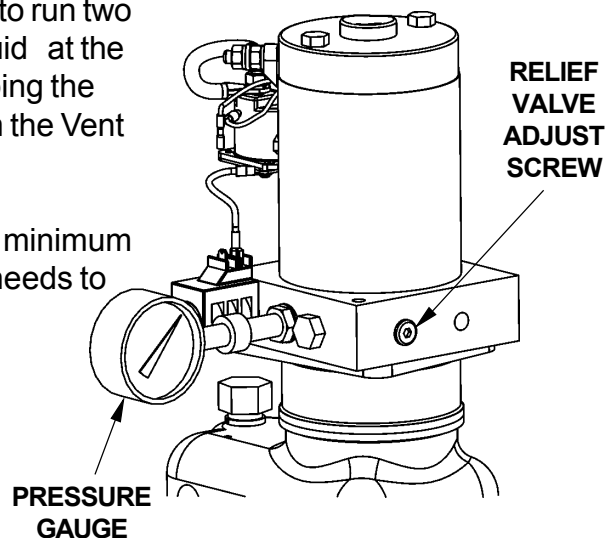

FIG. 40-2
3. With Platform on the ground, remove the pressure hose and fitting from the Pump and replace it with a 0-3000 PSI Pressure Gauge. Hold the switch in the "UP" position. Adjust the Relief Valve on the side of the Pump until the gauge shows 2800 to 3000 PSI (**FIG. 40-2**). Remove gauge and re-install pressure hose.